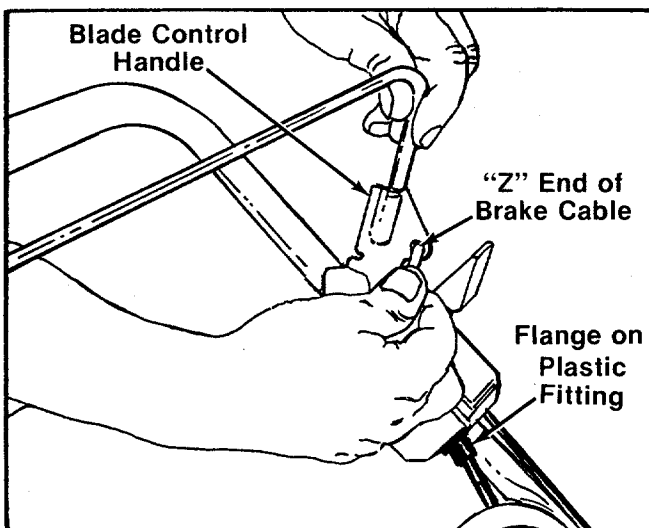

FIGURE 5.
8. Hook the "Z" end of the brake cable into the hole in the blade control handle. See figure 5. If additional slack is needed in order to hook the cable into the handle, proceed as follows.